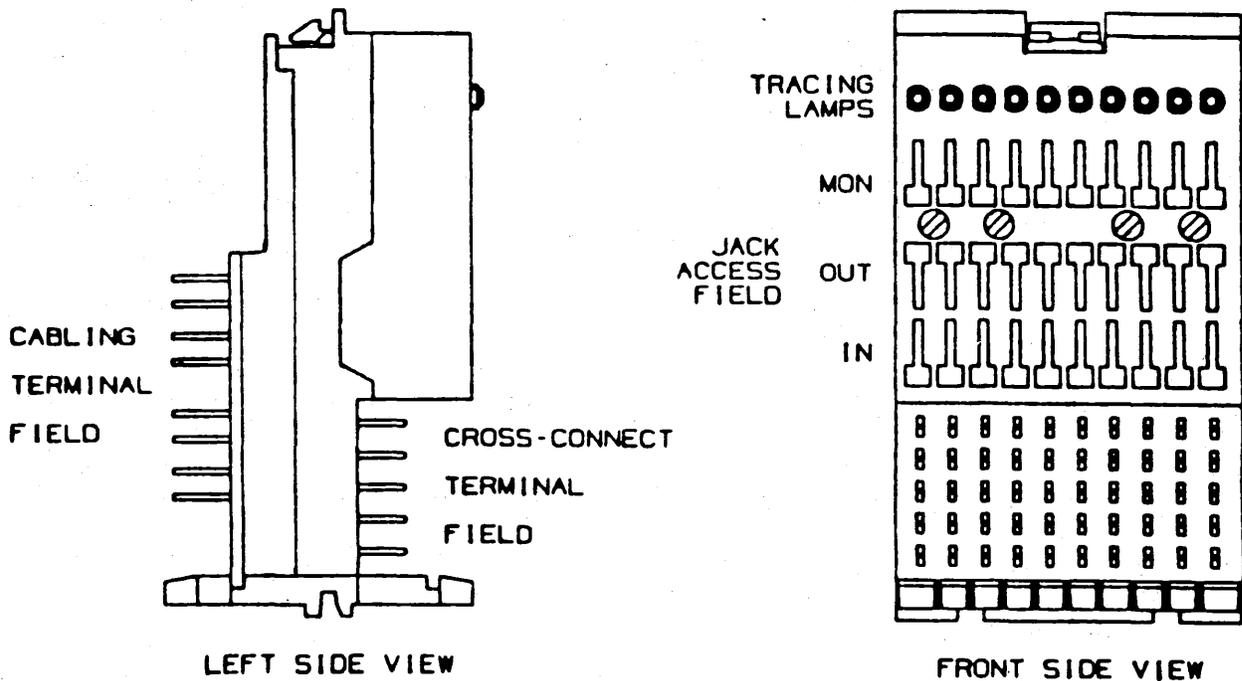
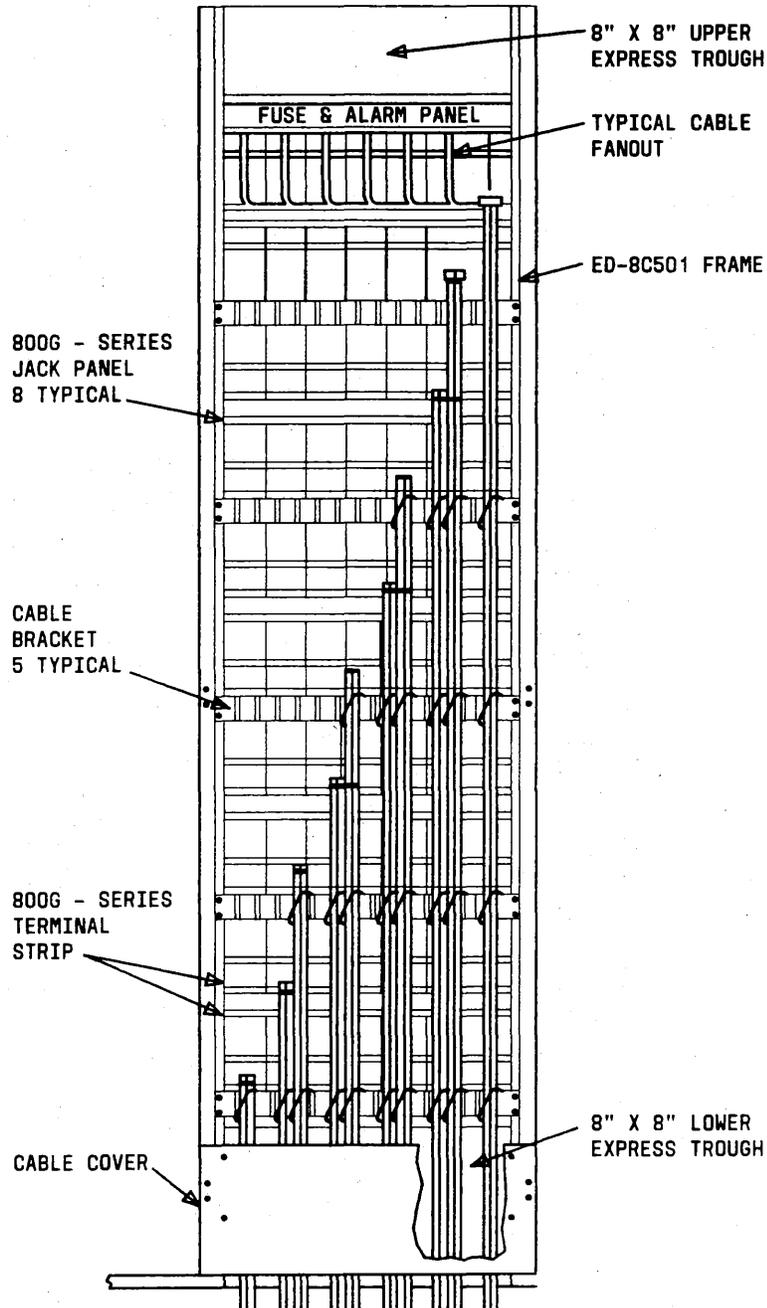
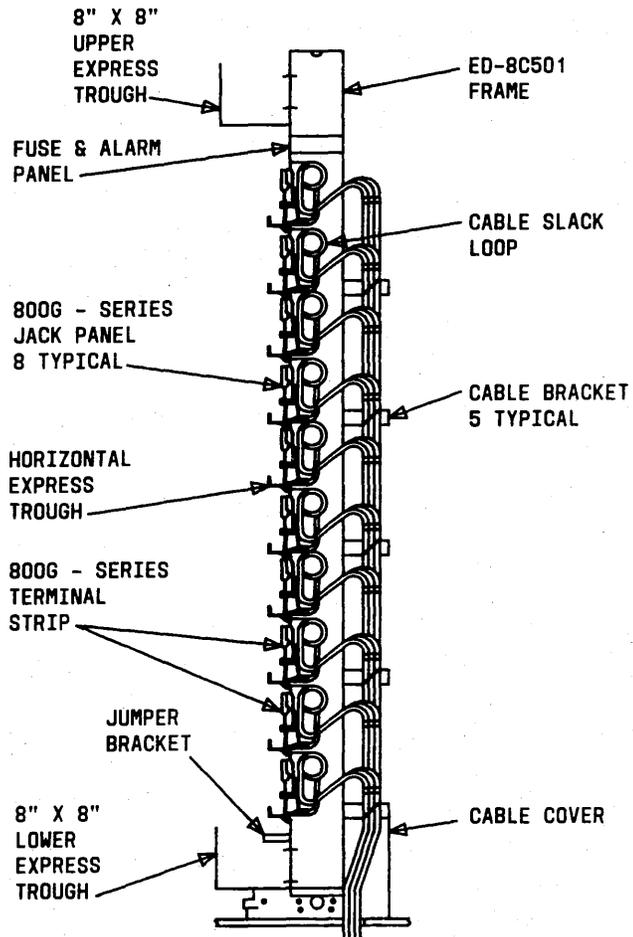

Fig. 3—800A Series Connecting Block
Fig. 5—Typical Bay for Triple Lineup Complexes Under Floor Cabling (Bays 1 - 3 of Each 4 Bays)
Fig. 6—Side View of Bay Showing Cabling Slack Loops
2.06 Typical is the 800A1-A1 connecting block for terminating ten DS1 or DS1C digital signals (Fig. 3).
“fountain” style of cabling (Fig. 5) for underfloor cables. This eliminates the need for spacers between bays, and allows a much higher cable termination density than other cabling schemes. The cables are terminated on the wire-wrap pins of the cabling terminal field of the 800 series connecting block (Figure 3). Also, as shown on Fig. 6, a cabling slack loop is provided so that the 800 series connecting blocks can be snapped out and cabled or replaced from the front.